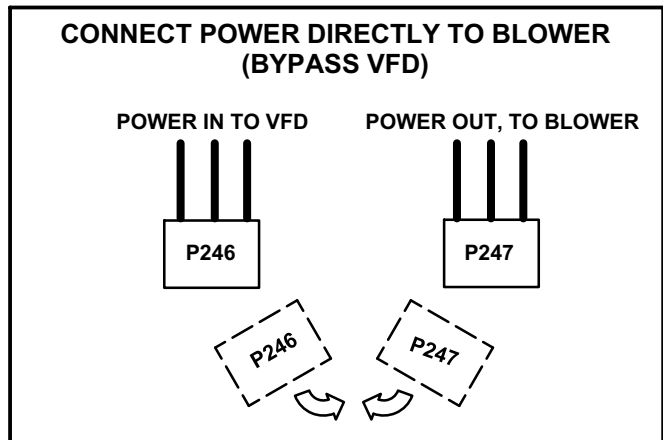

FIGURE 35
- 11- Connect P246 to P247. See figure 35.